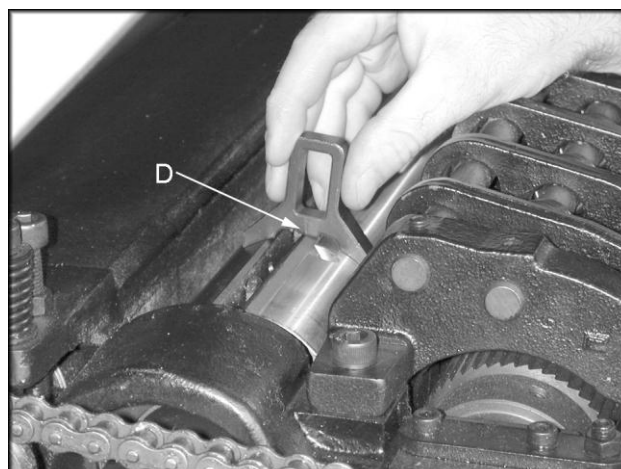

Figure 10
5. Place the knife setting gauge (D, Figure 10) on to the cutterhead as shown. Use the jackscrew to raise the knife so that the point just touches the raised portion of the gauge.